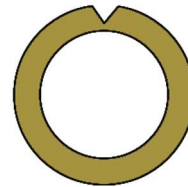

Fig. 7
- **Step 8A** Modify one of the two TB-7 rings with a “V” notch, as shown in Fig. 7.